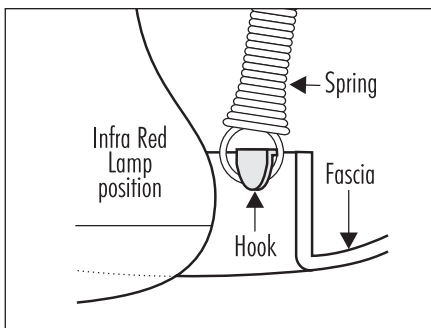

Fig. 11 – 11303, 11311, 11312, 11317 and 11335
1. Models 11303, 11311, 11312, 11317 and 11335, remove lamps and centre globe to fit fascia into position and hook coil-spring onto fascia as per Fig. 11. Models 12301 and 12303 have snap fit fascia, however the lamps and centre globe must be fitted in these models prior to the fascia. The legs of the lamp surround must rest freely on the ceiling. A clearance of approximately 3-5 mm should exist between the ceiling and outer rim of surround.